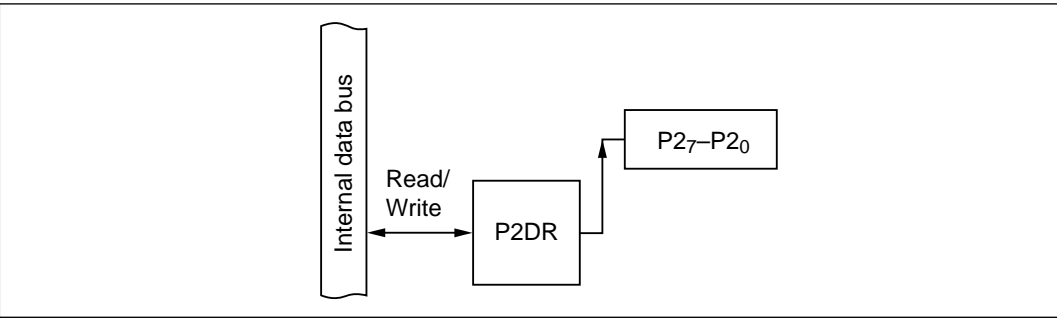

Figure 10-14 Output Port (Modes 2 and 7)
(3) **Output Port (Modes 2 and 7):** Figure 10-14 shows a block diagram illustrating the general-purpose output function. Table 10-10 indicates register read/write data. The value written in the port 2 data register (P2DR) is output at the pin. When read, P2DR returns the value written in P2DR.